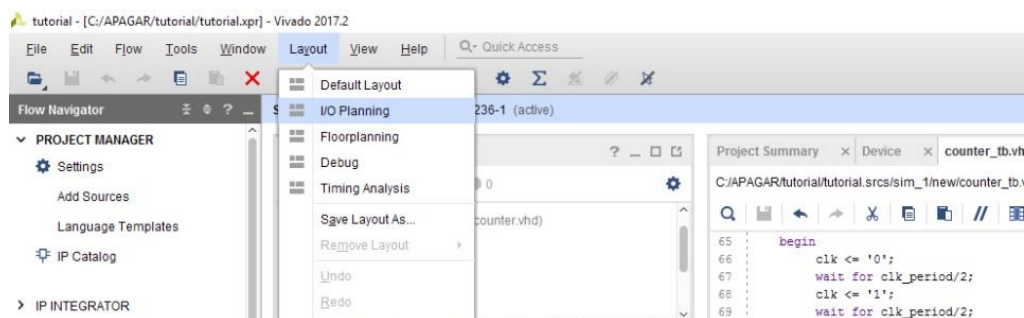

Figure 33
1. Open the I/O Planning interface by selecting in the menu bar the **Layout** menu and choosing **I/O Planning** (Figure 33)